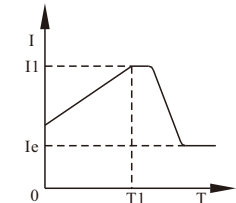

Figure 14
- b) Figure 14 shows the output current waveform of the current ramp starting mode, where  $I_1$  is the current limit value set by F6, and  $T_1$  is the time value set by F1.